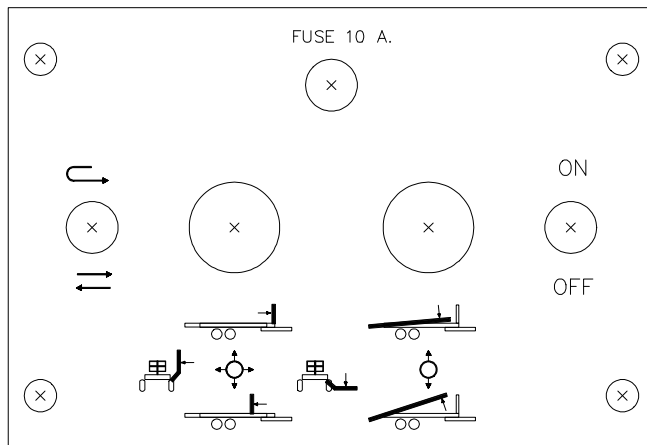

Figure 17
- 1) First familiarize yourself with the controls and their functions. (Figure 17)